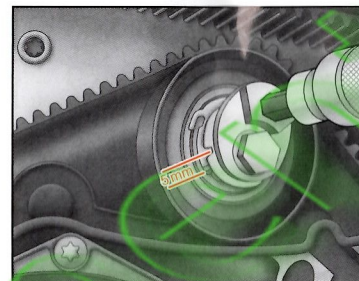

Fig.64
- (6) Using an allen key, rotate the tensioner in the direction indicated on the tensioner until the indicator lug is approximately 5 mm below the notch. (Fig.64)